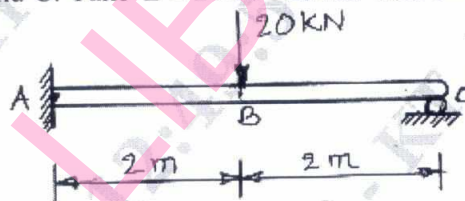

Fig. Q7 (b)
- 7 a. Derive the statically equivalent nodal force vector for a two noded beam element subjected uniformly distributed load (W). (08 Marks)
- b. A beam with fixed end and roller support is subjected to a point force of 20 kN as shown in Fig. Q7 (b). Determine (i) Transverse forces and bending moments, and (ii) Deflections and slopes at points A, B and C. Take $E = 2 \times 10^8$ kN/m² and $I = 8 \times 10^{-6}$ m⁴. (12 Marks)